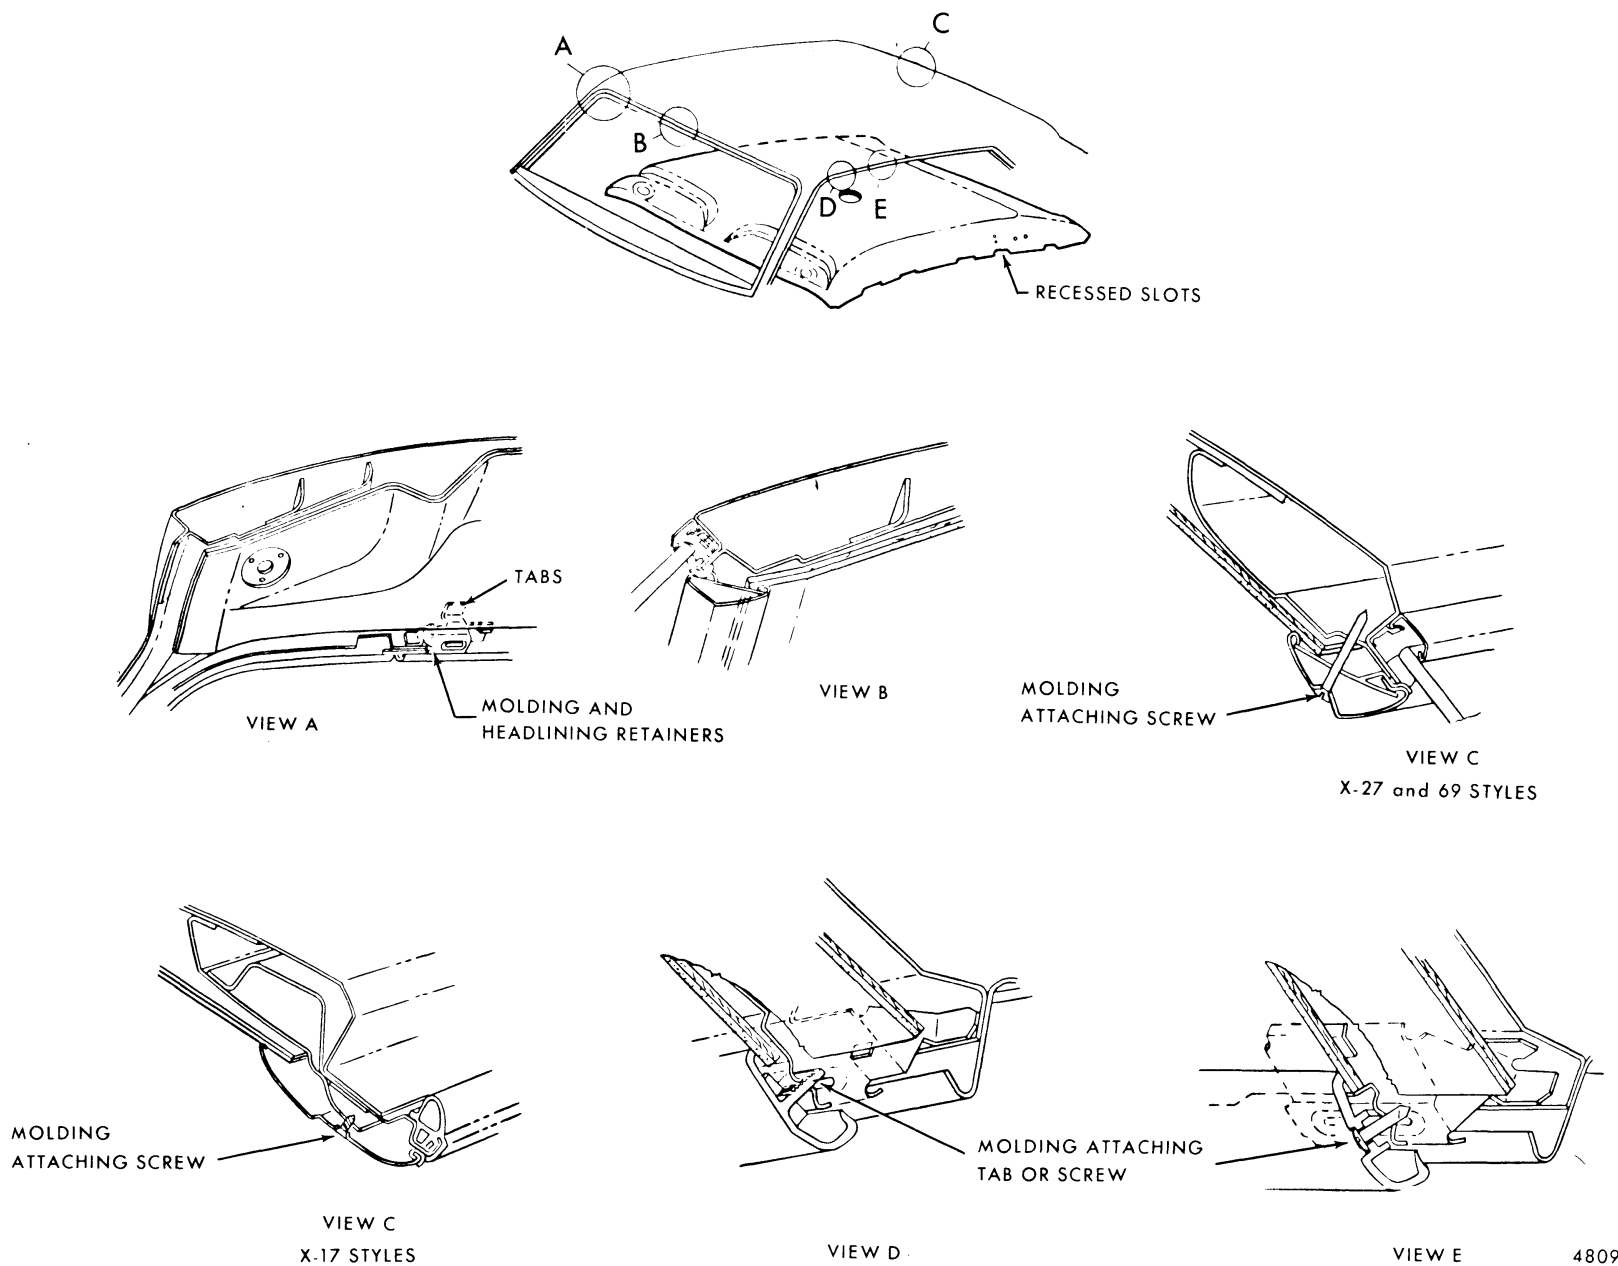

Fig. 8-6-One Piece Headlining
The one piece formed headlining consists of molded hardboard covered with a foam and vinyl facing. The headlining is held temporarily in place by retaining tabs located in the side roof rail which engage recessed slots in both sides of the headlining assembly. Final attachment is accomplished when the interior moldings and attaching screws that retain the sunshade brackets, dome lamp base, coat hooks and shoulder strap anchor plates are installed (see Fig. 8-6).
2. Disengage headlining assembly from tab retainers and carefully lower headlining from roof panel (see Fig. 8-6, View "A").
2. Align headlining to roof inner panel with recessed slots positioned over retainers at side roof rail (see Fig. 8-6, View "A").
3. Engage headlining at tab locations to accomplish temporary retention to roof inner panel (see Fig. 8-6, View "A").